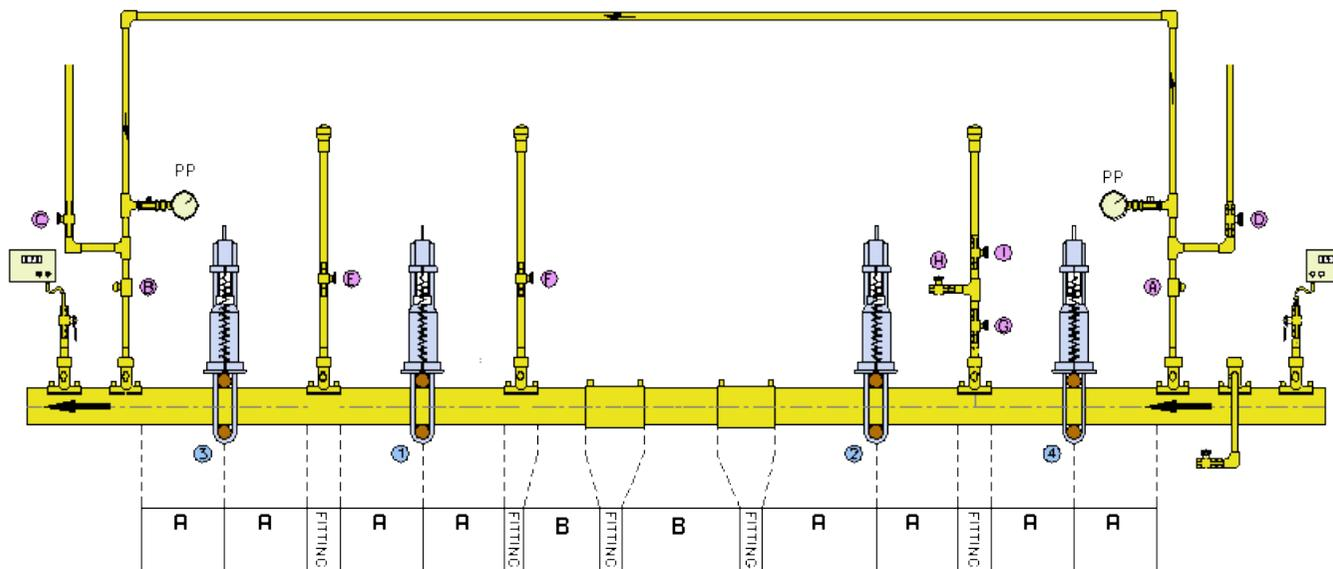

Figure 50- Original Double Squeeze-Off Positions
5. Set out the squeeze-off operation by marking the exposed pipe with all positions for pressure points, bypass connections, vent point and the location of squeeze-off equipment see Figure 50.